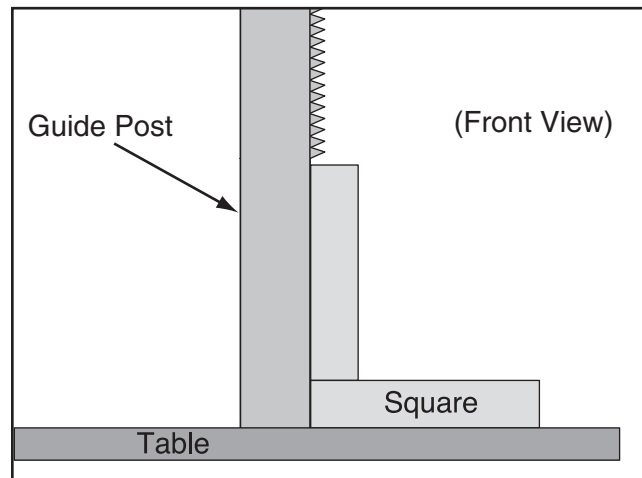

Figure 77. Example of checking guide post squareness.
7. Disconnect the machine from power, then place a machinist's square on the table next to the right hand side of the guide post, as shown in **Figure 77**.